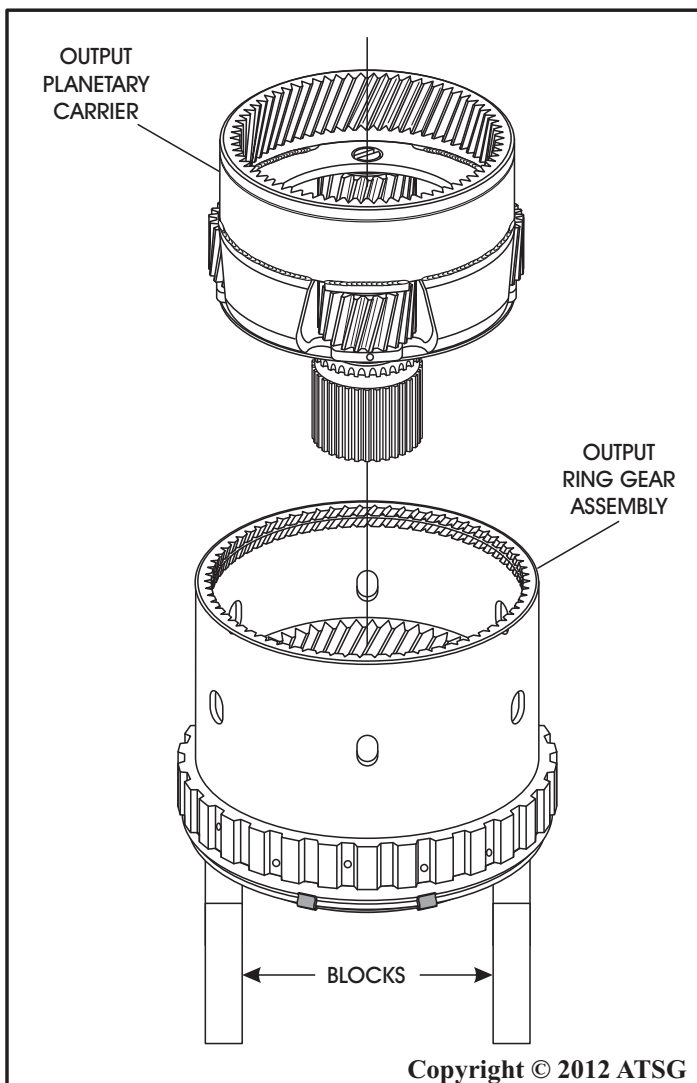

Figure 140
10. Turn the ring gear assembly over and set on blocks or similar device to raise it off of the work surface, as shown in Figure 140.
11. Install the output planetary carrier into output ring gear, as shown in Figure 140, and rotate to engage planetary gears.